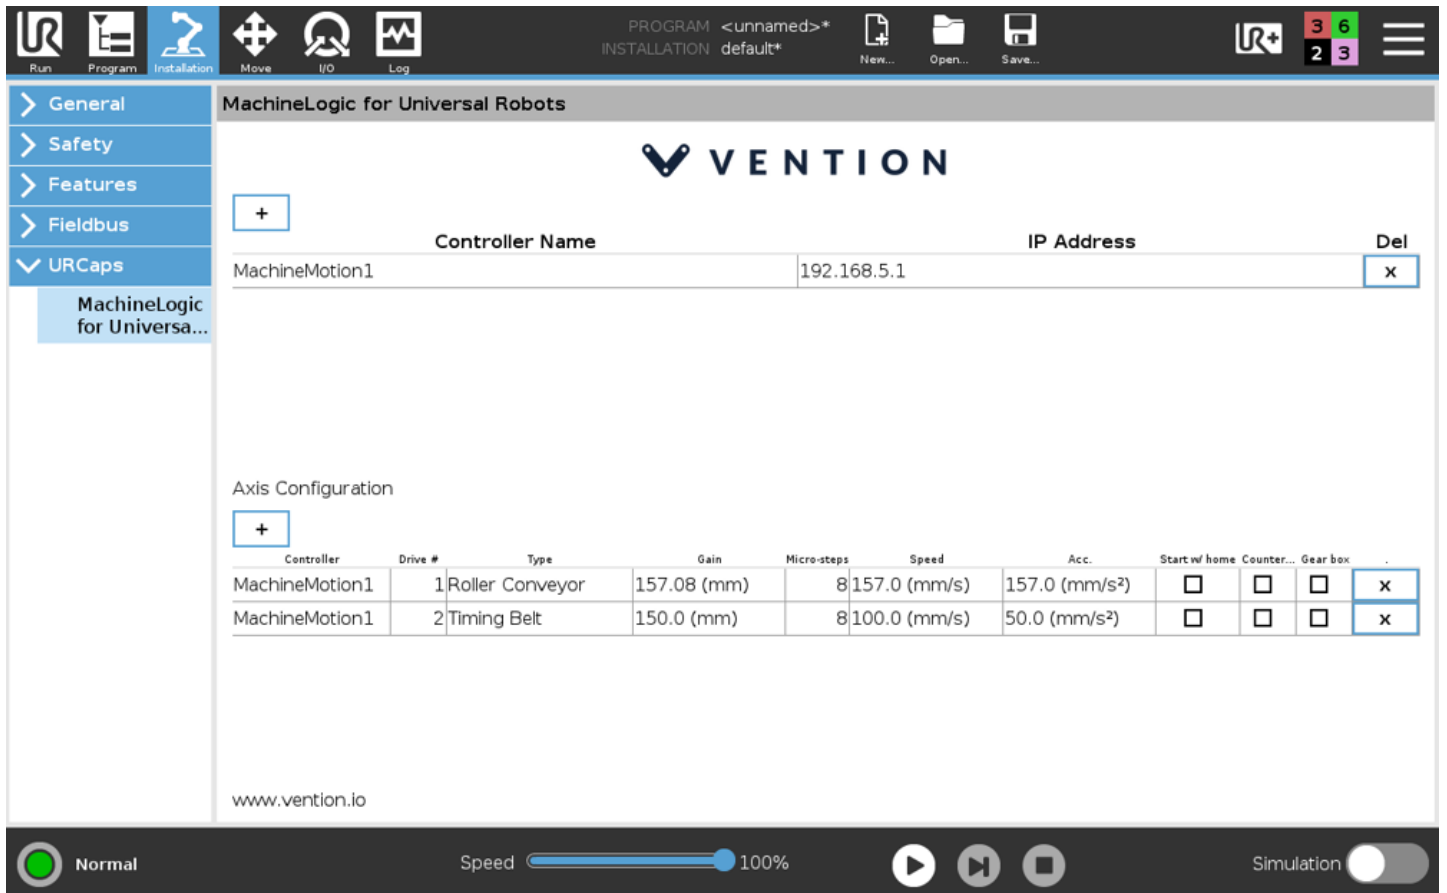

Figure 16: For the Robot Safety Module networking method, the IP address needs to be set to 192.168.5.1
**Important:** If you are using the Robot Safety Module method networking approach, you have to overwrite the IP address value with **192.168.5.1** (see Figure 16). To overwrite, click on the IP address field and use the keypad to enter the new IP address.